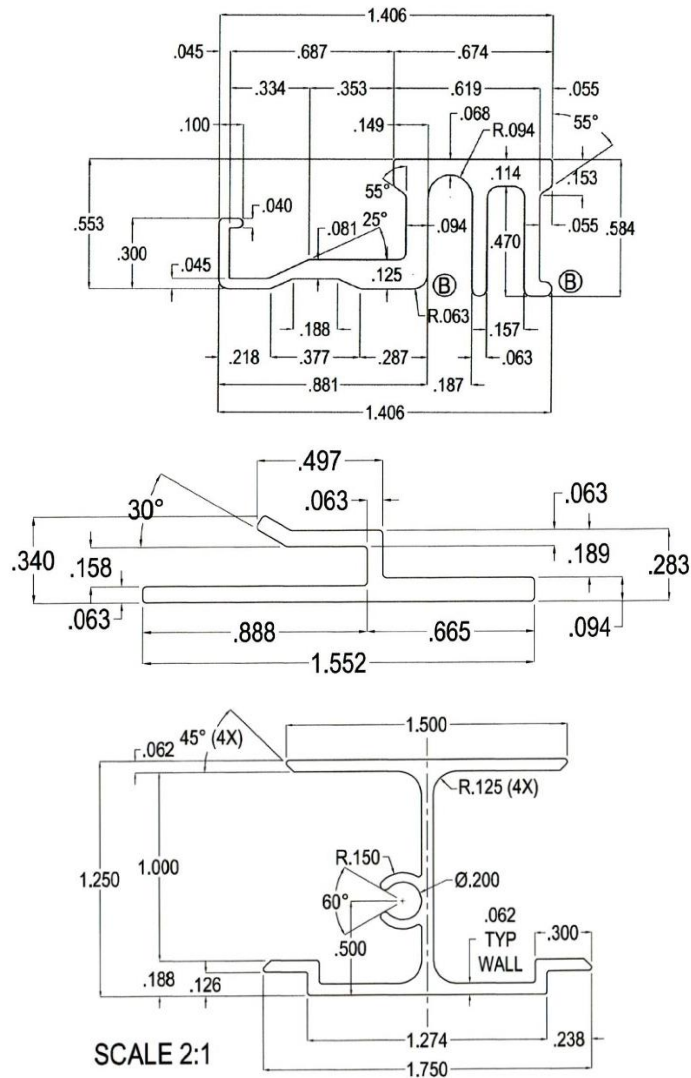

FIGURE 2—STIFFENERS AND ATTACHMENT ACCESSORIES
- Continuous I-shaped extruded aluminum stiffeners #12324PS (see Figure 2)
- Extruded aluminum clips #12322RS (See Figure 2)
- Extruded aluminum frame #12323RS (See Figure 2)